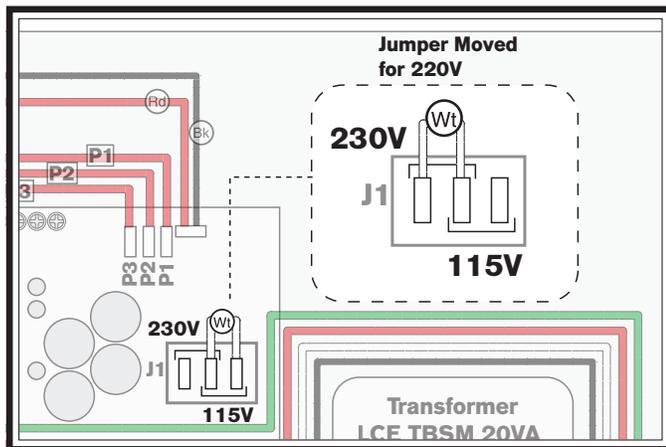

Figure 49. Changing jumper wire at location J1.
3. Carefully switch the jumper wire from the 115V position to the 230V position (see **Figure 49**).